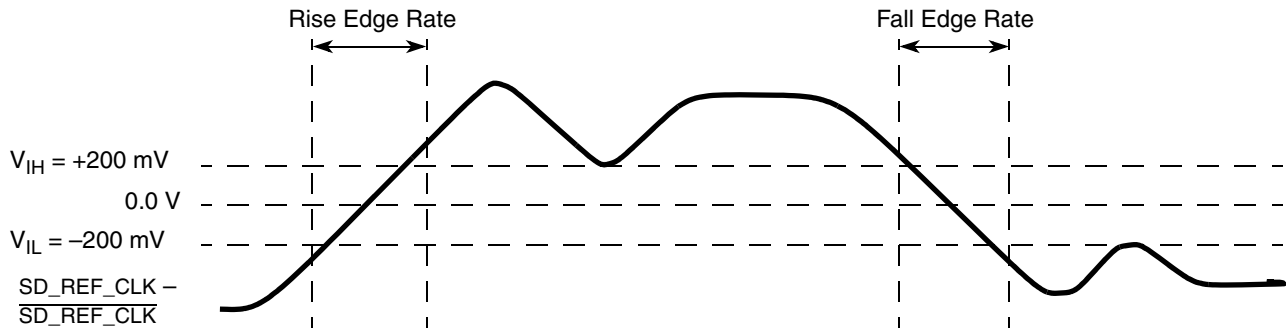

Figure 55. Differential Measurement Points for Rise and Fall Time
- Measured from -200 mV to +200 mV on the differential waveform (derived from SD\_REF\_CLK minus  $\overline{\text{SD\_REF\_CLK}}$ ). The signal must be monotonic through the measurement region for rise and fall time. The 400 mV measurement window is centered on the differential zero crossing. See Figure 55.
Figure 55 shows the differential measurement points for rise and fall time.